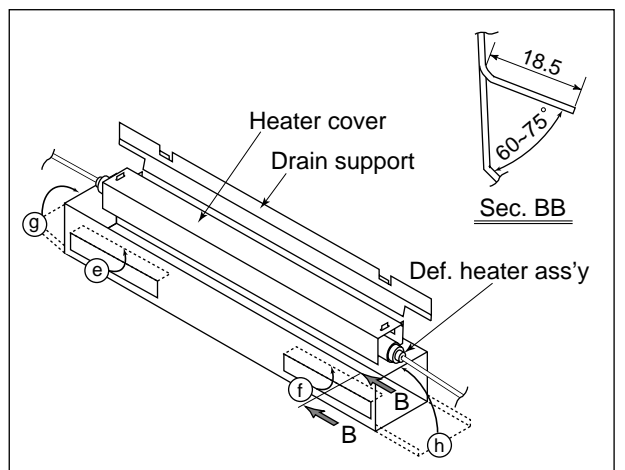

Fig. A-33
9. Bend (e), (f), (g) and (h) Drain support 2 as shown in Fig. A-33.